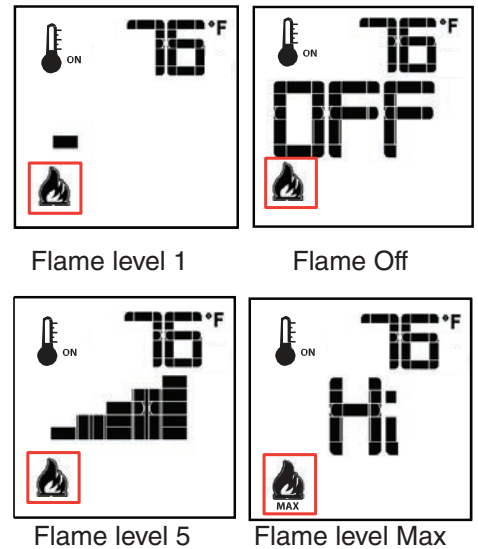

Fig. 53 Flame level control
The Proflame2 has six (6) flame levels. With the fireplace turned on, and the flame level at maximum height, press the down arrow key once (Fig. 53 Flame level 1) to reduce the flame height by one step until the flame is turned off.
The up arrow key will increase the flame height each time it is pressed. If the up arrow key is pressed while the fireplace is on but the flame is off, the flame will come on in the high position. (Fig. 53 - Flame level Max) A single “beep” will confirm reception of the command.